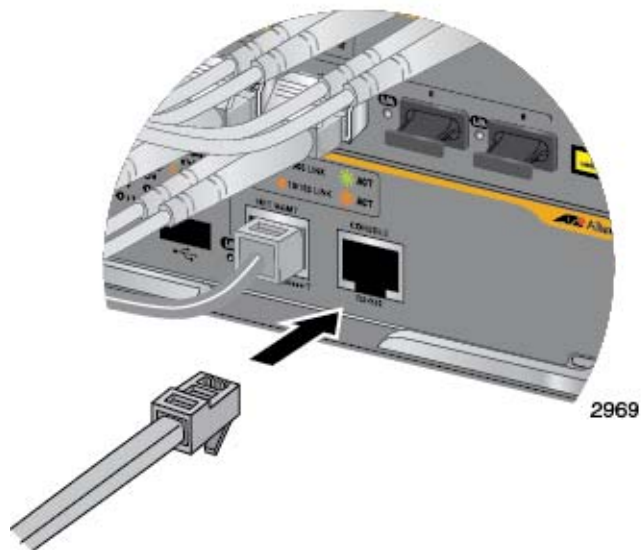

Figure 144. Connecting the Management Cable to the Console RS-232 Port
1. Connect the RJ-45 end of the management card included with the AT-SBx81CFC400 Controller Fabric Card to the Console RS-232 port on the front panel of the AT-SBx81CFC400 Control Card, as shown in Figure 144. If the chassis has two controller cards, you must connect the cable to the Console RS-232 port on the active master card. To determine which card is the active master controller card, examine the CFC LEDs. The LEDs are green on the active master controller card and amber on the standby master controller card.